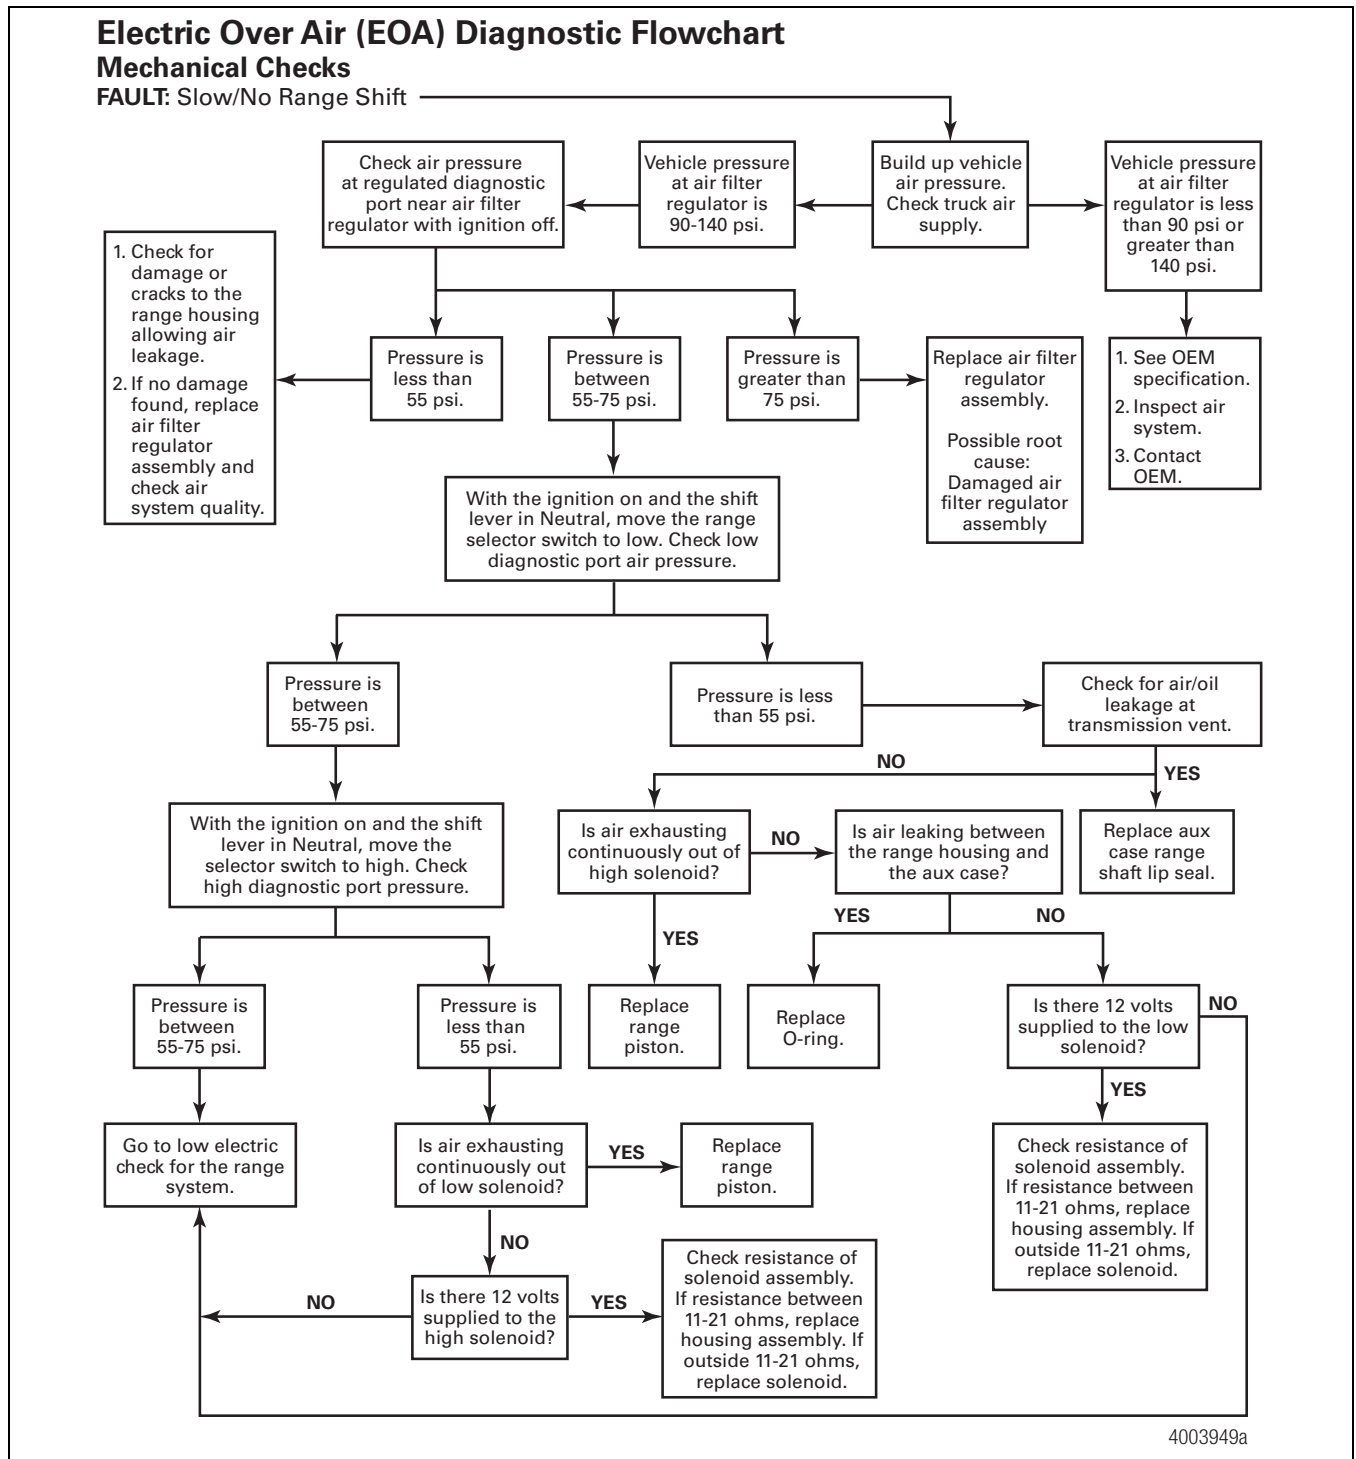

Figure 9.55
1. Mechanical Checks — Follow the mechanical checks flowchart to verify that all mechanical systems function correctly. Repair all mechanical issues BEFORE you perform electrical checks. Figure 9.55.